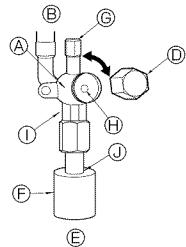
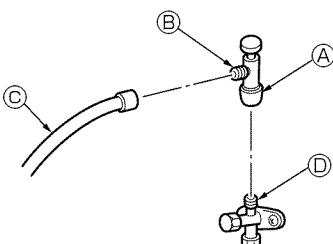

Fig. 4-5
Fig. 4-6
- (1) Gas side (Fig. 4-5)
- ① Remove the cap, pull the handle toward you and rotate 1/4 turn in a counter-clockwise direction to open.
- ② Make sure that the stop valve is open completely, push in the handle and rotate the cap back to its original position.
- (2) Liquid side (Fig. 4-6)
- ① Remove the cap and turn the valve rod counterclockwise as far as it will go with the use of a 4 mm hexagonal wrench. Stop turning when it hits the stopper.